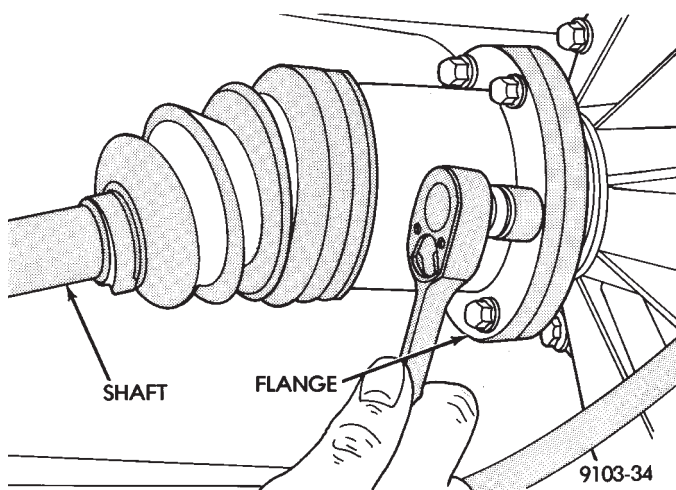

Fig. 1 Remove Mounting Bolts
- (1) Raise vehicle on hoist.
- (2) Remove right and left inner half shaft joint mounting bolts (Fig. 1).